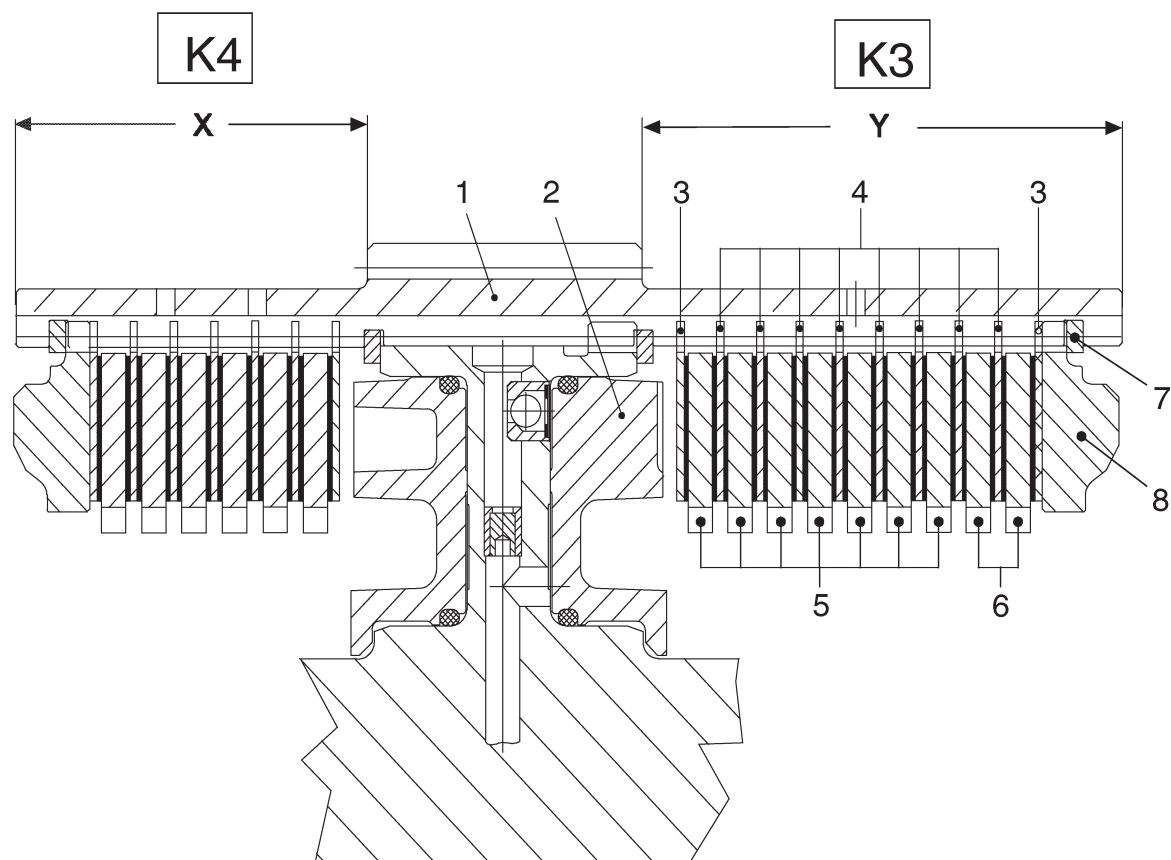

Figure146
(1) Install disc set according to sketch or table (figure 146).